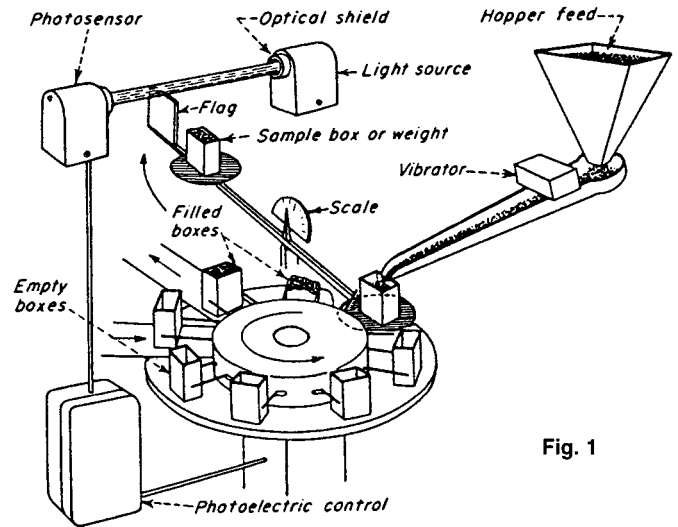

Fig. 1
**Fig. 1** A bimetallic sensor is simple, compact, and precise. Contacts mounted on low-expansion struts determine slow make-and-break action. A shell contracts or expands with temperature changes, opening or closing the electrical circuit that controls a heating or cooling unit. It is adjustable and resistant to shock and vibration. Its range is 100 to 1500°F, and it responds to a temperature changes of less than 0.5°F.
**Fig. 1 Automatic weighing and filling.** The task is to fill each box with an exact quantity of products, such as screws. An electric feeder vibrates parts through a chute and into a box on a small balance. The photoelectric control is mounted at the rear of the scale. The light beam is restricted to very small dimensions by an optical slit. The control is positioned so that the light is interrupted by a balanced cantilever arm attached to the scale when the proper box weight is reached. The photoelectric control then stops the flow of parts by deenergizing the feeder. Simultaneously, an indexing mechanism is activated to remove the filled box and replace it with an empty one. The completion of indexing reenergizes the feeder, which starts the flow of screws.